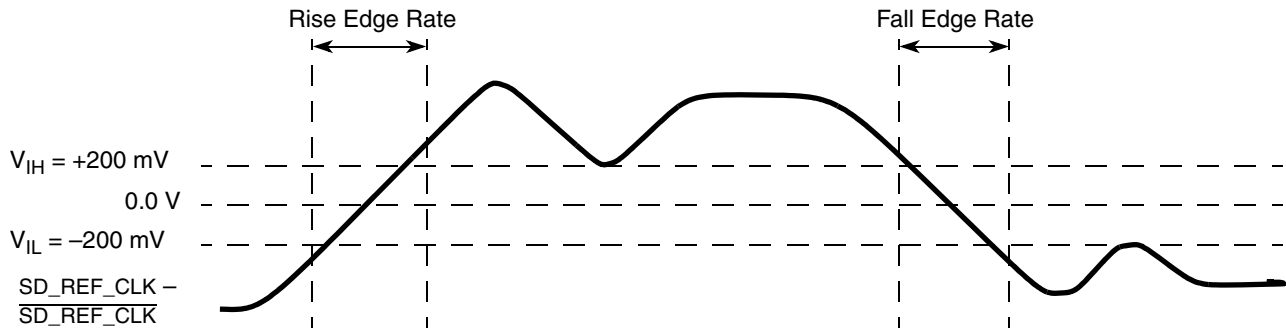

Figure 55. Differential Measurement Points for Rise and Fall Time
- Measured from -200 mV to +200 mV on the differential waveform (derived from SD_REF_CLK minus $\overline{\text{SD_REF_CLK}}$). The signal must be monotonic through the measurement region for rise and fall time. The 400 mV measurement window is centered on the differential zero crossing. See Figure 55.
Figure 55 shows the differential measurement points for rise and fall time.